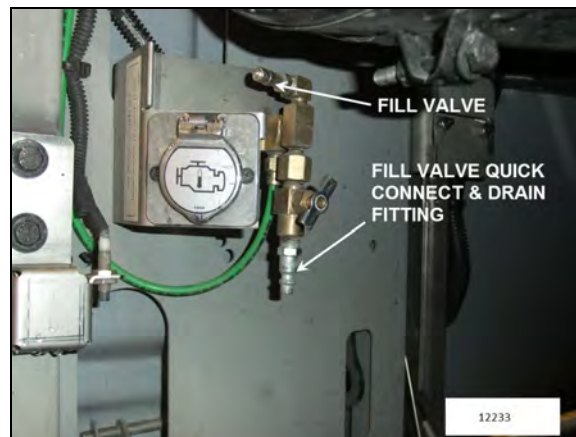

FIGURE 7: REAR VALVE LOCATION (TYPICAL)
The rear valve is located in the engine compartment and is accessible from engine compartment R.H. side door (Figure 7).
Replace the accessory air filter element at the intervals specified by the Lubrication And Servicing Schedule in Section 24: LUBRICATION & SERVICING or whenever differential pressure exceeds 15 psi (105 kPa) between filter inlet and outlet ports. Check condition of all three O-rings for damage. Replace when necessary (Figure 7).
The air dryer and wet tank may be purged simultaneously for maintenance purposes using the drain cock on the emergency system fill valve located in the engine compartment and accessible through the engine compartment R.H. side door (Figure 7).
5. Release air dryer pressure by opening the air dryer drain valve (Figure 7).